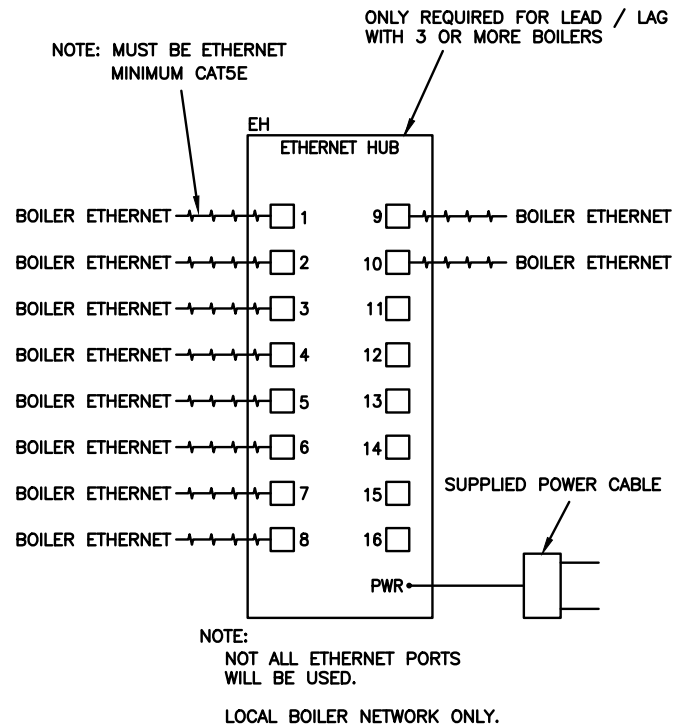

FIGURE 22 – ETHERNET-IP FIELD WIRING
5. Communication between boilers is performed using an industrial Ethernet/IP network protocol. The Endura+ boilers must be on a private network not shared with other equipment or devices. Cable type must be Cat5e or Cat6. Two boilers may be directly connected; an IP switch is required for 3 to 10 boilers. See Figure 22. Install the IP switch in a clean, dry location.